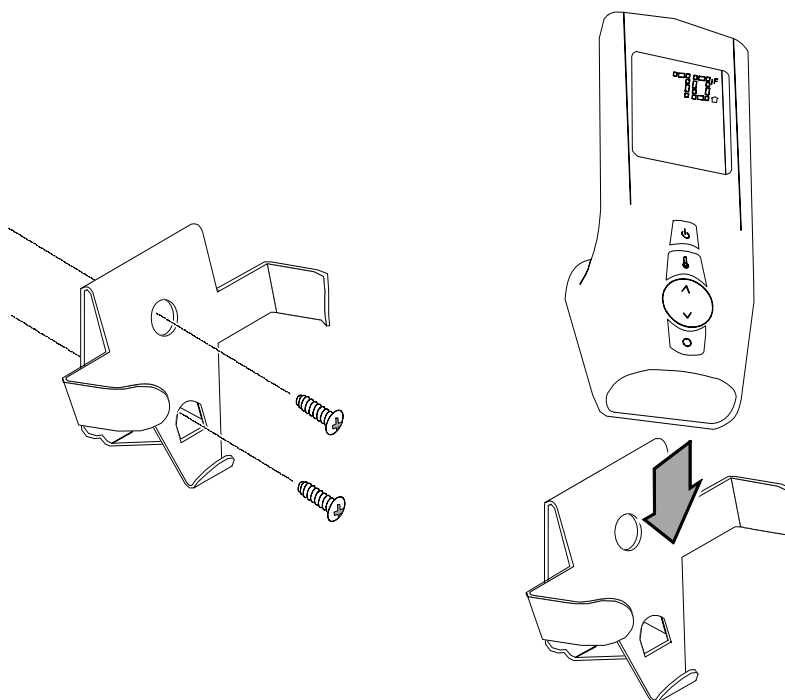

Figure 35
- 22 A wall mount is included with this kit for the remote. It may be mounted to the wall for easy access and storage. Use the included drywall anchors (and screws) to secure it to the wall (see Figure 35).